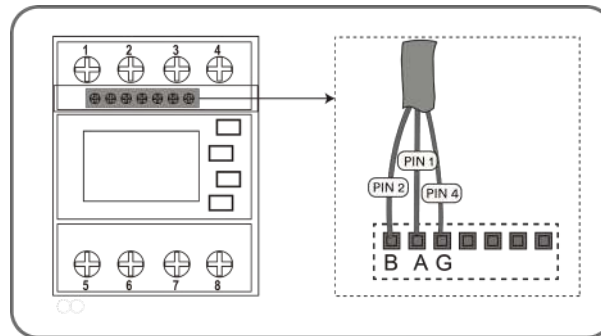

Fig. 38. RS485 cable connect to the Smart-Meter
1. Strip the insulation of the other side from the network cable and screw copper wire to the corresponding terminal of the Smart-Meter. [  PH0  0.7Nm]. (See Fig. 38).